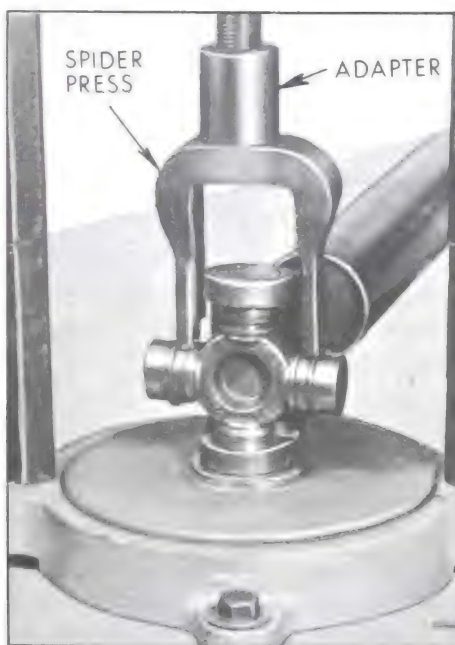

Figure 6-58—Pressing Out U-Joint Bearing
2. Set up J-6180-01 Power Ram and J-6207 Hydraulic Pump in preparation for removing the propeller shaft bearings. With this use Axle Bearing and Retainer Replacer J-8853 as a base plate. Attach Adapter J-9522-2 onto the ram screw. See Figure 6-58.
Install Spider Press J-9522-3 on spider. See Figure 6-58.